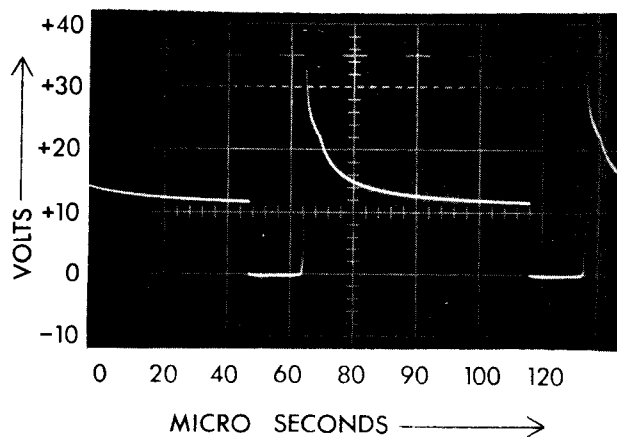

FIGURE 5
- a. Should observe 11 KHZ rectangular waveform. See Figure 5.